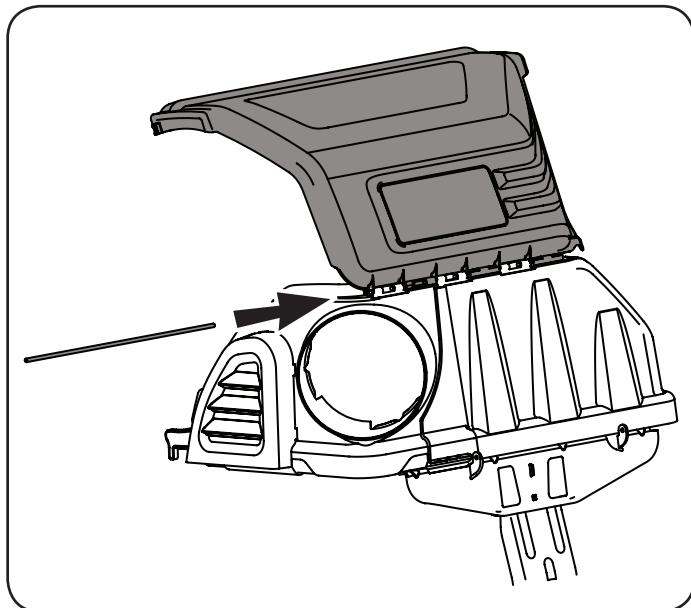

Figure 15
4. From the front of the assembly, line up the tabs on the upper grass catcher cover with the tabs at the front of the upper chute support. Slide the hinge pin through the slots beginning at the right side upper chute support of the mounting tabs, as in Figure 15. Push the pin all the way in until it reaches the end-stop.